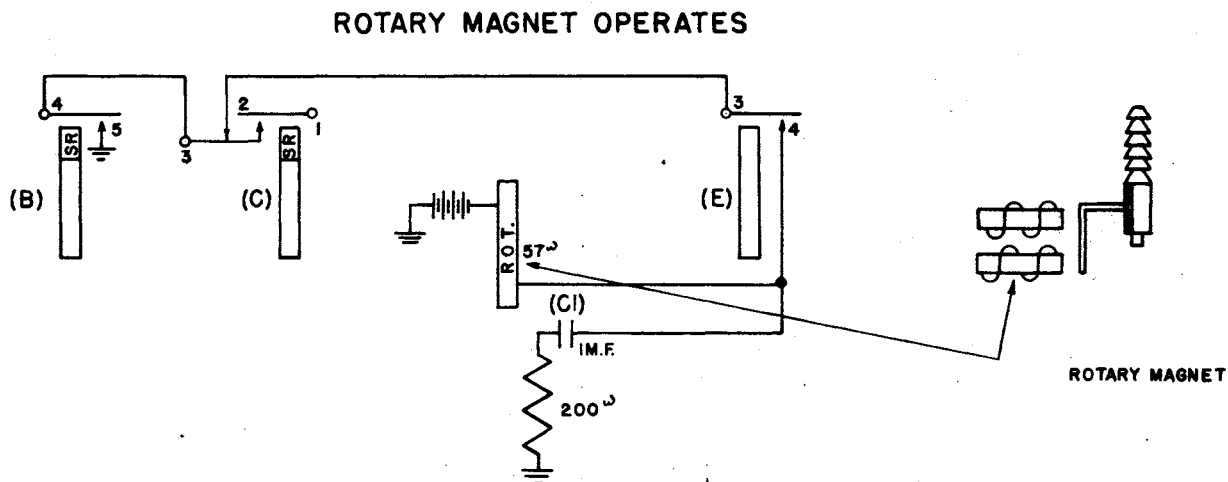

FIG. 6
Rotary (ROT) magnet operates (Fig. 6) from ground on the 5-4 contacts of (B) relay, 3-2 contacts of (C) relay, 3-4 contacts of (E) relay through the 57 ohm winding of the rotary (ROT) magnet to battery. Condenser (CI) prevents sparking at 3-4 contacts of (E) relay. The 200 ohm resistance is to prevent a direct circuit to ground if the (CI) condenser becomes shorted.
If (D) relay is not operated when the rotary (ROT) magnet releases, the (E) relay will operate from a ground on the sleeve (S) bank terminal coming from the connector, and close a circuit (Fig. 6) to operate the rotary magnet. The operation of the rotary (ROT) magnet pulls up the armature opening the rotary interrupter (ROT) contacts 1-2 which releases the (E) relay and causes the pawl at the end of the armature to engage the rotary ratchet, forcing the shaft and wipers around one step where the three wipers tip (T), ring (R), and sleeve (S) make contact with the second set of bank terminals on the third level. The (E) relay releasing opens the circuit through the winding of the rotary (ROT) magnet which releases.